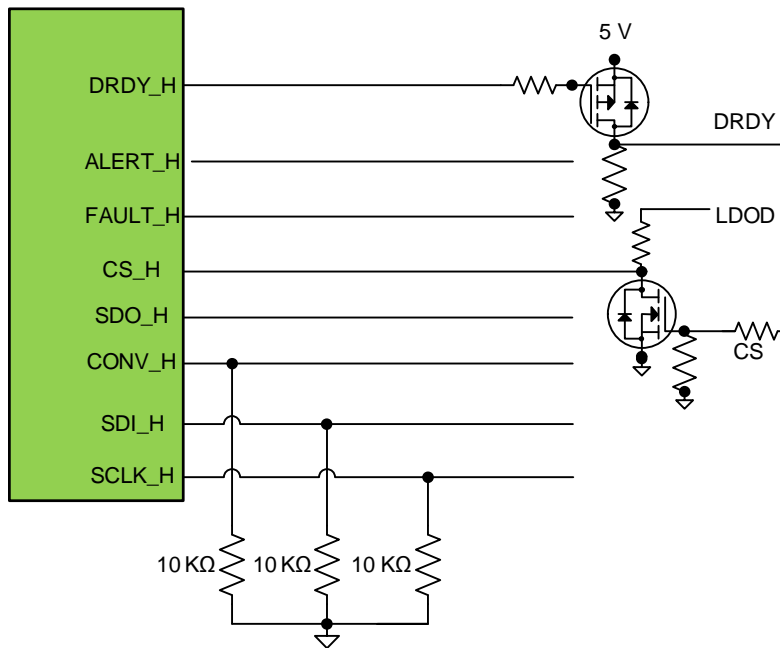

Figure 12. Host Communication
1. The CONV\_H, SDI\_H, and SCLK\_H pins must be connected by a 10-K $\Omega$  pulldown resistor going to GND (see Figure 12). If the design does not require use of the bq76PL536A-Q1 CONV\_H pin, the pin can be tied directly to GND or through a resistor. No external pullup resistors are required for the Alert\_H, Fault\_H, and SDO\_H pins.